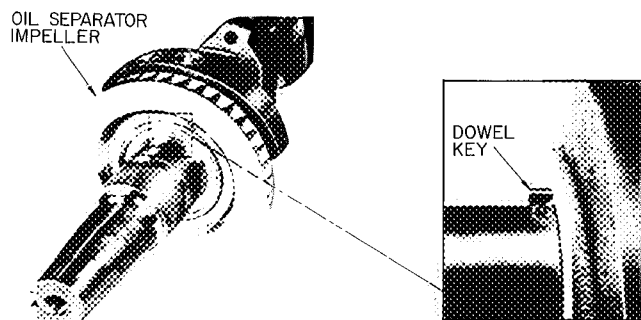

Fig. 54 — Centrifugal Oil Separator
To remove 5H120 or 126 oil separator (Fig. 54) from crankshaft, heat to 180 F or more by immersion in hot water or oil. If water is used, be sure that all traces have been removed before reassembly. *Do not heat impeller with torch.*
1. Install dowel key (Fig. 54) with axis parallel to axis of crankshaft. Position key so chamfered edge is toward radius of crankshaft journal.